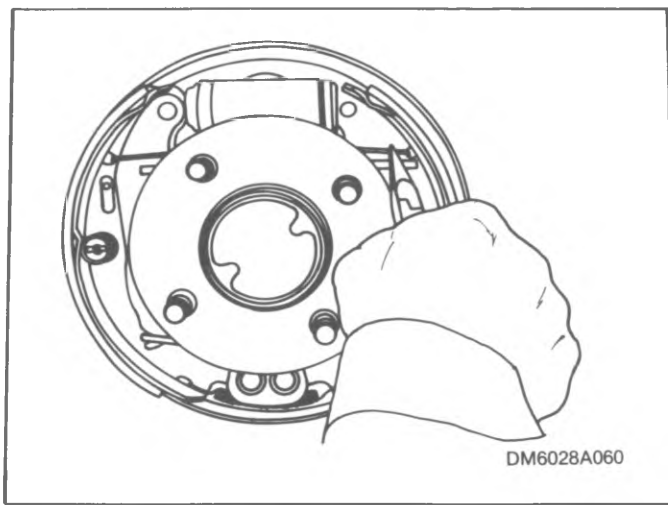

Figure 4-16. Removing Pull-Back Spring
1. Disconnect parking brake cable from parking brake lever (8).
2. Remove pull-back spring (1) using suitable brake spring pliers as shown in figure 4-16.